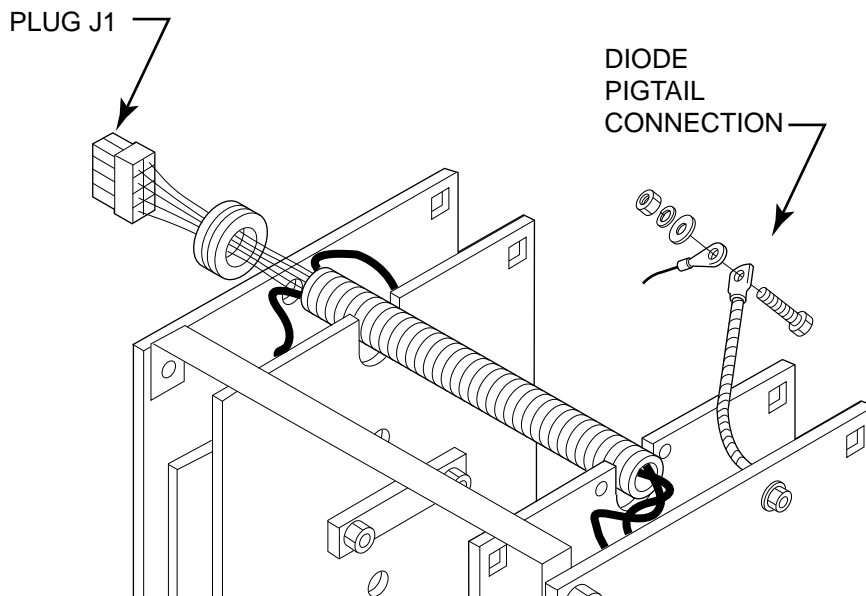

FIGURE F.10 DIODE PIGTAIL CONNECTION TO POLARITY SWITCH LEAD.
12. Using the 7/16" wrench disconnect the diode pigtail connection from the polarity switch lead. See **Figure F.10.** Cut any necessary cable ties and remove insulating sleeving.
8. Assemble the diode pigtail lead to the polarity switch lead. See **Figure F.10**. Be sure to replace sleeving and secure with cable ties. Position with harness and secure with cable ties.